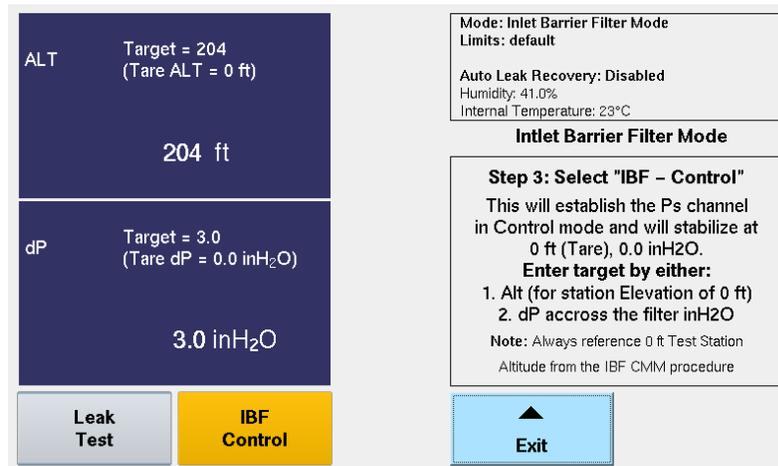

Figure F. 7 IBF Control Mode Screen
10. Step 3 screen is displayed and “IBF Control” button is enabled (Fig. F. 7).